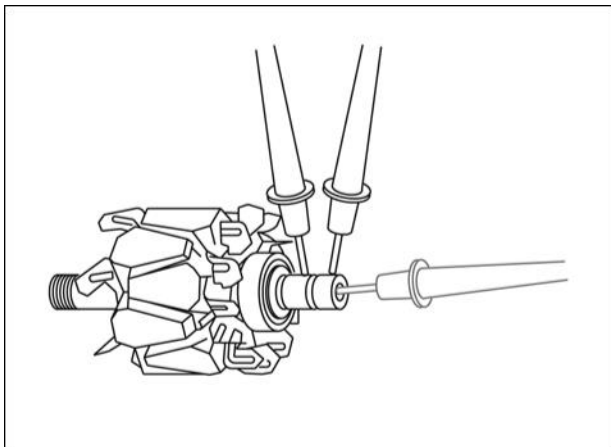

Figure 29
3. Measure slip ring diameter (Figure 29).